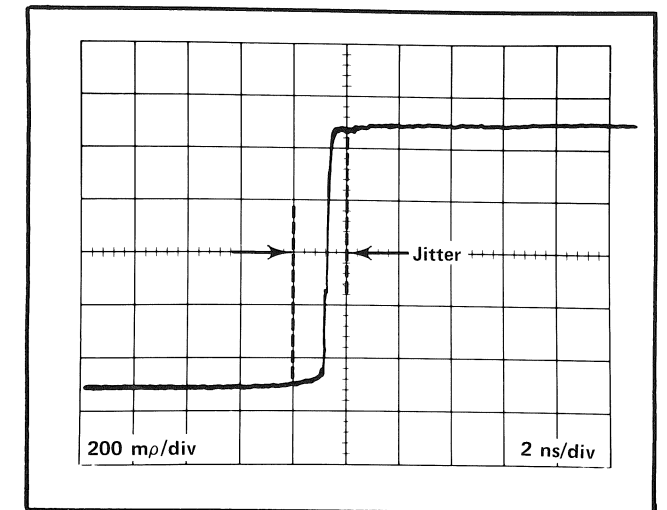

Fig. 5-7. System jitter measurement (Step 15, first part).
- Adjust the TIME-DISTANCE control to display the pulse edge and vertically center the step (see Fig. 5-7).